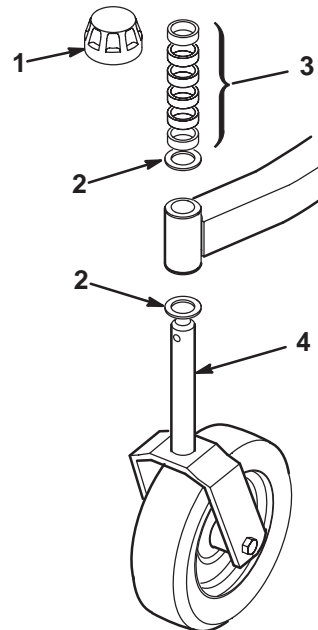

Figure 1
1. Remove the tensioning caps from the spindle shafts and slide the spacers and thrust washers off (Fig. 1 and 2).
2. Slide the spacers onto the castor spindle to get the desired height-of-cut; refer to the Height-of-Cut Chart, Page 11. Slide a thrust washer onto the spindle. Push the large castor spindle through the front castor arm and the small castor spindle through the rear castor arm. Install another thrust washer and the remaining spacers onto the spindle and install the tensioning cap to secure the assembly (Fig. 1 and 2).